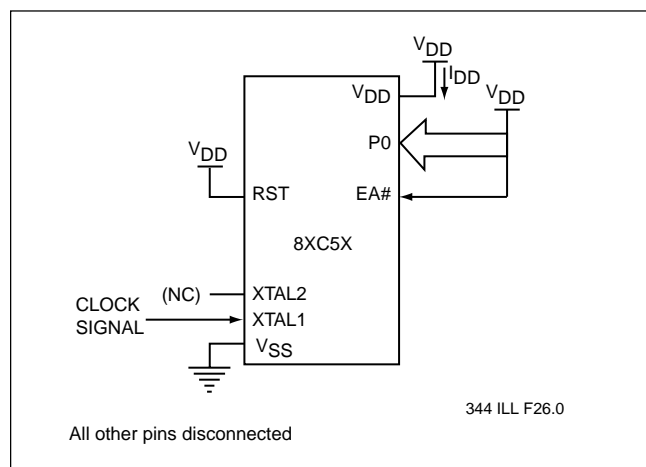

FIGURE 22: I_{DD} TEST CONDITION, ACTIVE MODE
- See Figures 22, 23, 24 and 25 for test conditions. Minimum V_{DD} for Power Down is 2V.